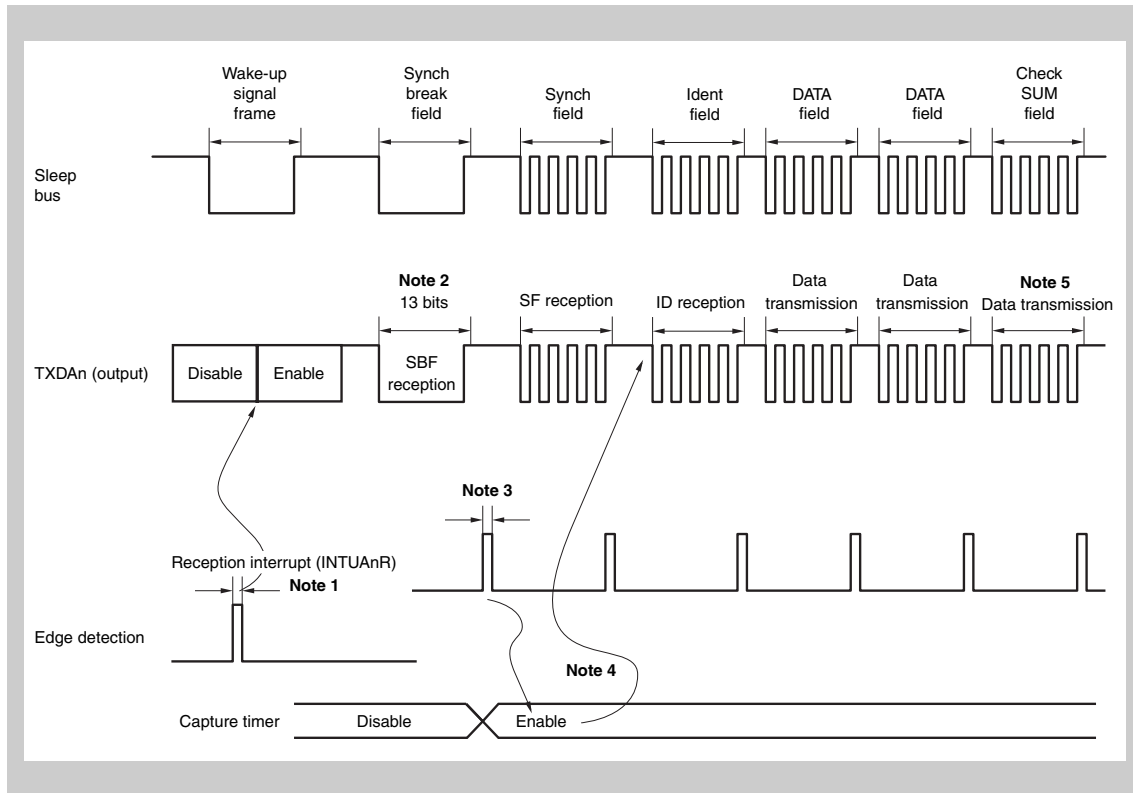

Figure 16-3 LIN reception manipulation outline
*Figure 16-2* and *Figure 16-3* outline the transmission and reception manipulations of LIN.